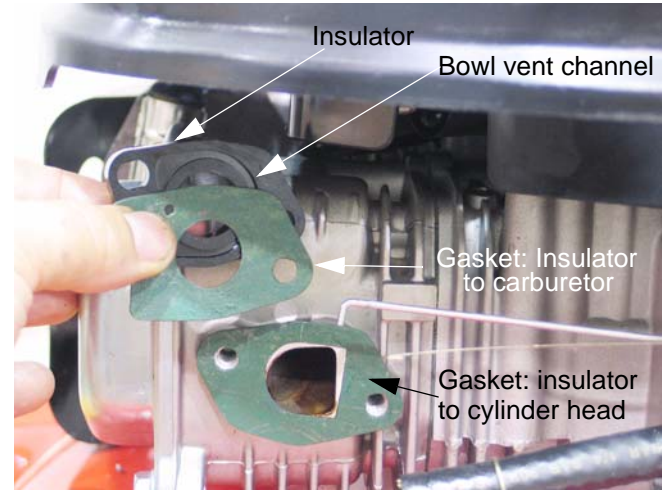

Figure 3.16
3. The insulator is sandwiched between two gaskets which are located between the carburetor and the cylinder head. See Figure 3.16.